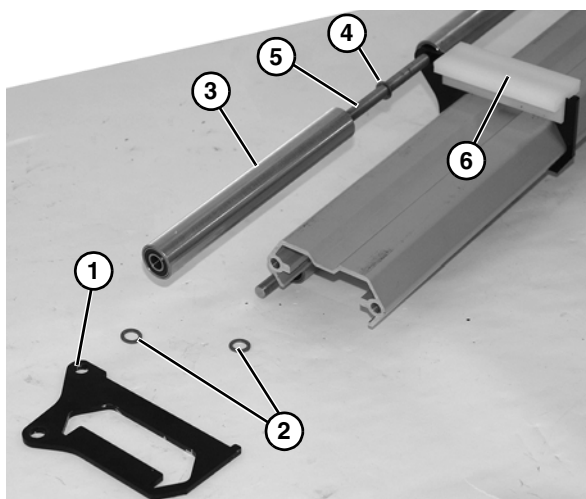

Figure 68
8. Slide the support plate (**Figure 68, item 1**) off of both axle shafts.
9. Remove washers (**Figure 68, item 2**) off of lower and upper axle shafts.
10. Remove roller assembly (**Figure 68, item 3**) and washer (**Figure 68, item 4**) from axle shaft (**Figure 68, item 5**).
12. Remove and replace wear guides (**Figure 68, item 6**) if worn.